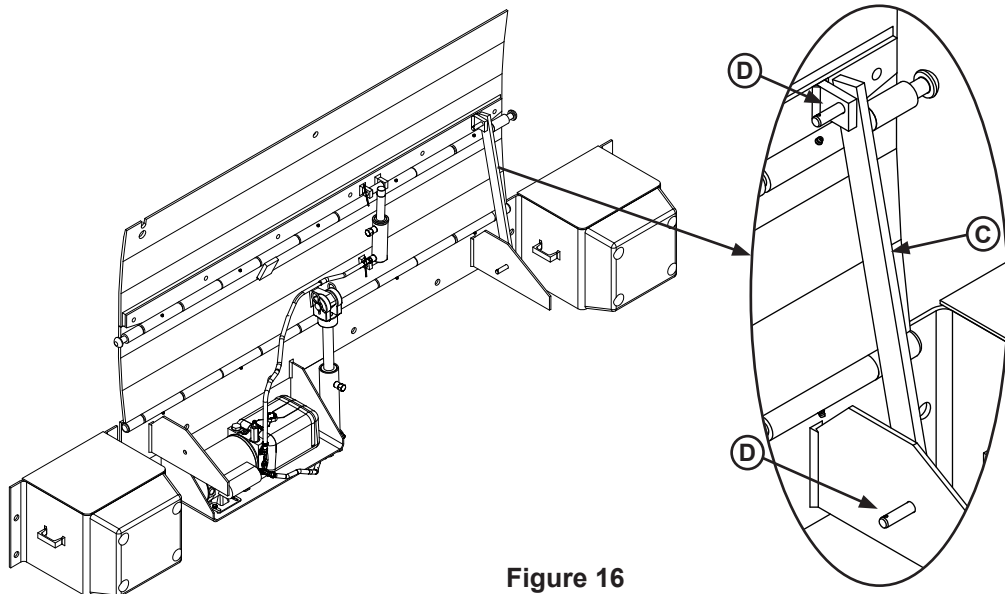

Figure 16
Whenever maintenance is to be performed under the dock leveler, support the dock leveler with the maintenance prop (C). Position the maintenance prop in its support gussets (D). See Figure 16.